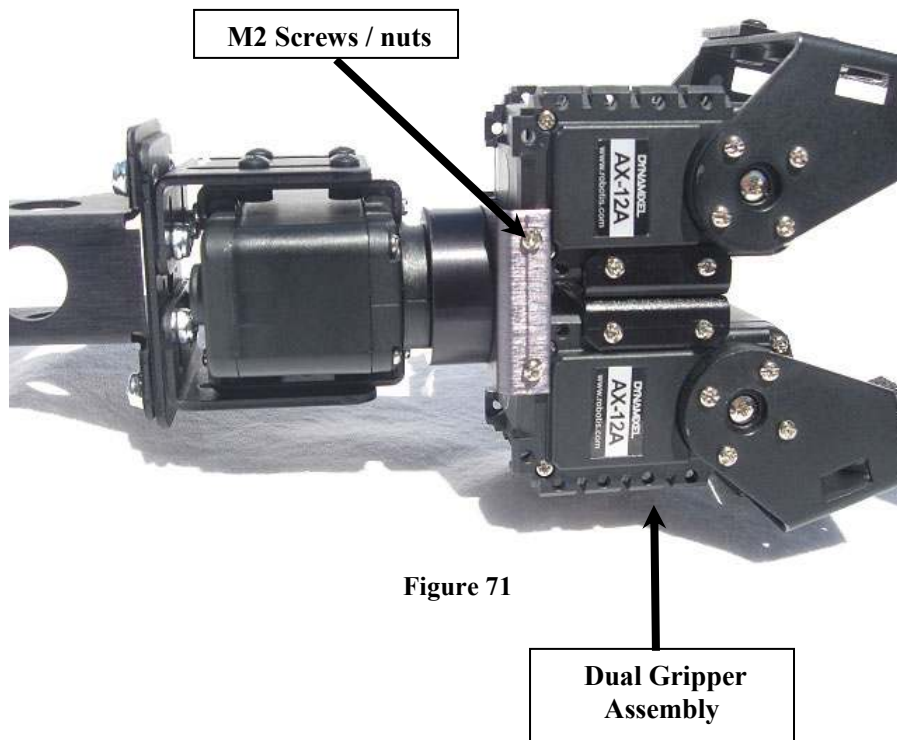

Figure 71
7. Using (4) M2 screws and nuts from the AX12A/18A servo box, install the dual gripper assembly to the assembly in step 6 as shown in figure 71.